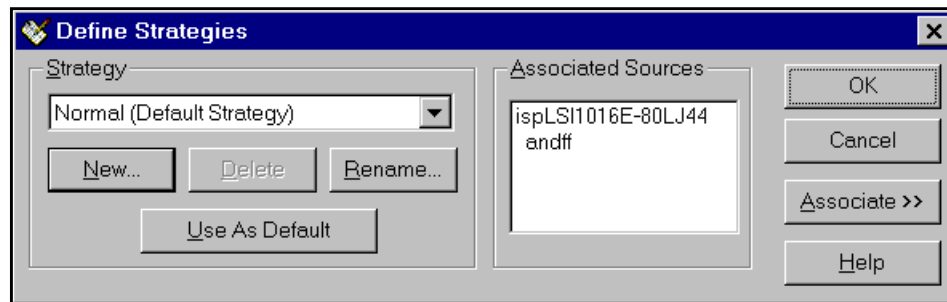

Figure 3-10. Define Strategies Dialog Box
1. Select **Source** $\Rightarrow$ **Strategy** from the Project Navigator. The Define Strategies dialog box (Figure 3-10) appears.